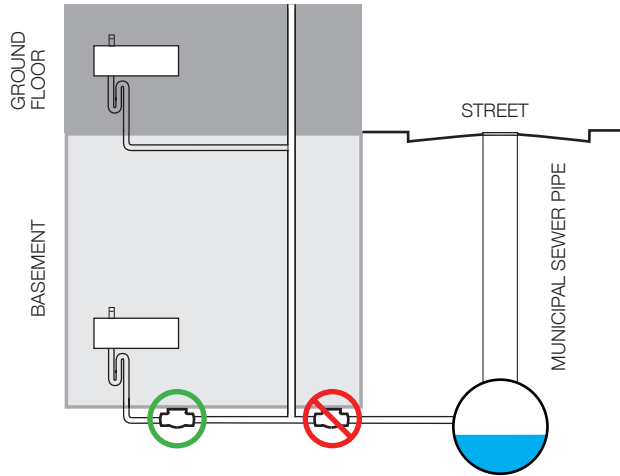

Figure 3: Install backwater valves on each fixture. Never install on pipes servicing units above basement.
- Never locate a backwater valve on plumbing that services units above the basement or roof drains (Figure 3).